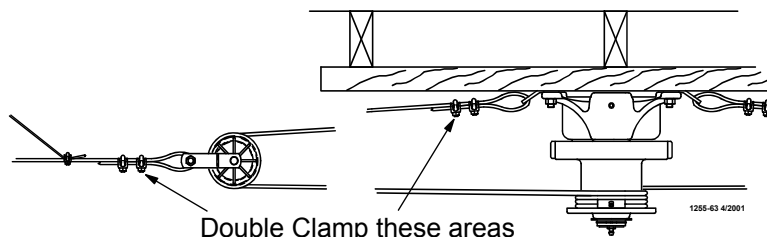

Figure 10. Double back arrangement for feed lines over 350' [107 m]
3. Extend the 3/16" [5 mm] main winch cable the full length of the feeder line. Attach the cable temporarily to the ceiling with nails, staples, or some type of fasteners. **Figure 10** shows a double back arrangement for feed lines over 350' [107 m].